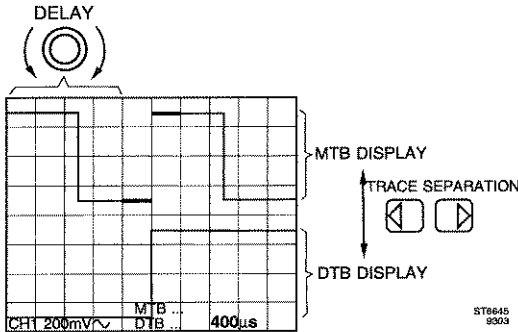

Figure 3.8
- Adjust the DELAY control to 400.0 us so that the display of Fig. 3.8 is obtained. For this the TRACE SEPARATION keys (or TRACK rotary) must be adjusted such that MAIN TB is above the DELAY TB display.